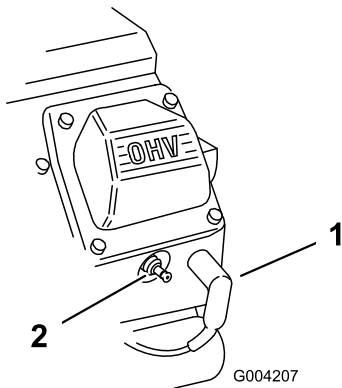

Figure 34
3. Pull the wires off of the spark plugs (Figure 34).
3. Push the wires onto the spark plugs (Figure 34).